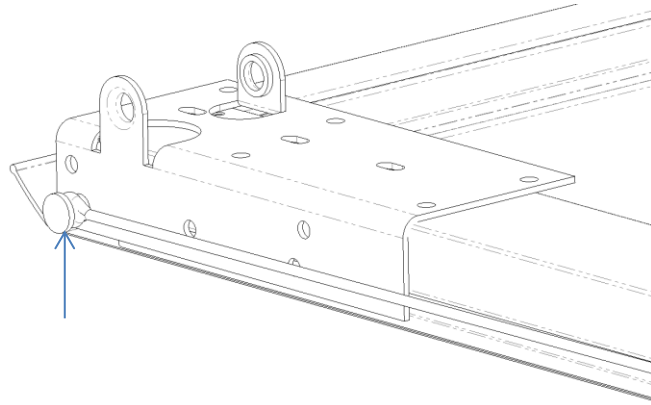

Figure 7
c. Attach loop in lifting cables over milford pin (Figure 7).